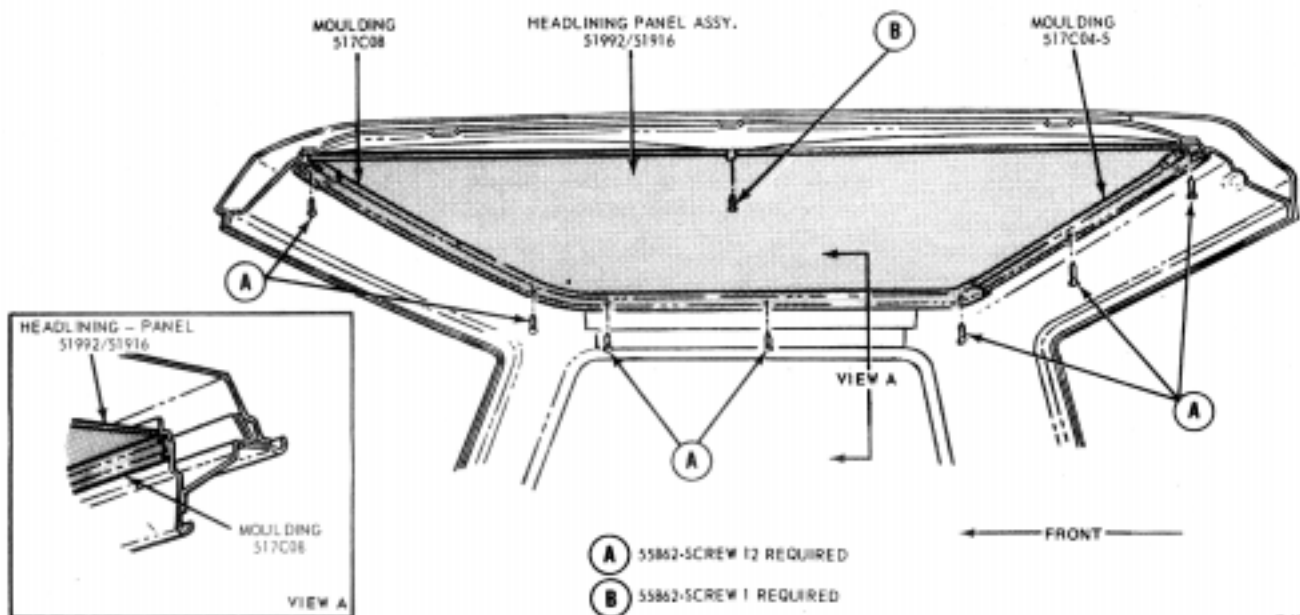

FIG. 2 Roof Trim Panel Installation—F-Series Standard Cab
1. Remove the arm rest retaining screws and remove the arm rest from the door inner panel (Fig. 2).
2. Remove the nuts (3) from the inside door handle and remove the handle and trim cup.
3. If the vehicle is equipped with a stereo radio, remove the screws (4) retaining the speaker grille and remove the grille.